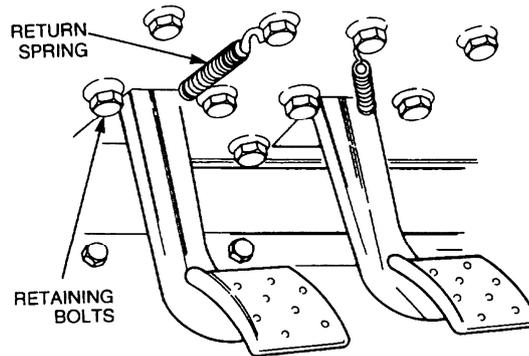

Figure 50 Pedal Bracket and Return Spring Removal
- c. Disconnect the clutch pedal return spring (Figure 50).
- d. Remove the six bolts securing the pedal bracket to the firewall (Figure 50).
- Position the pedal and bracket in the vehicle and secure it with the six retaining bolts (Figure 50).